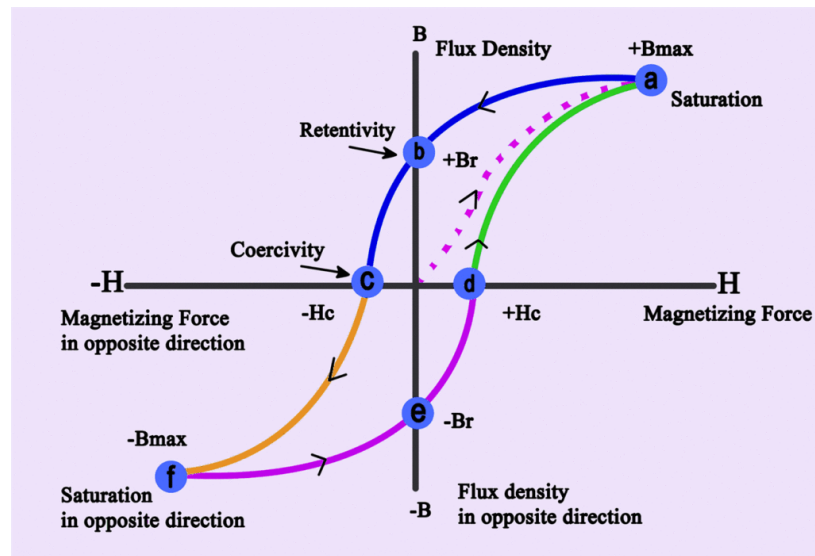

Fig.5.6.BH-Curve
Hysteresis, in the context of magnetism, describes the phenomenon where a material's magnetization lags behind the applied magnetic field. The B-H curve (Fig.5.6), or hysteresis loop, is a graphical representation of this relationship, plotting magnetic flux density (B) against magnetic field strength (H). This curve provides valuable insights into a material's magnetic properties, including its ability to retain magnetization and its resistance to demagnetization.